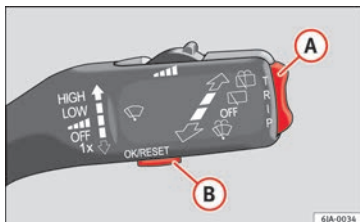

Fig. 29 Windscreen wiper lever: informative display controls.
– The **Main menu** is enabled by keeping rocker switch **(A)** » Fig. 29 on the multifunction lever pressed.
- If a warning appears on the informative display it must be confirmed by pressing the button,  » Fig. 29 » page 43 before proceeding to the main menu.